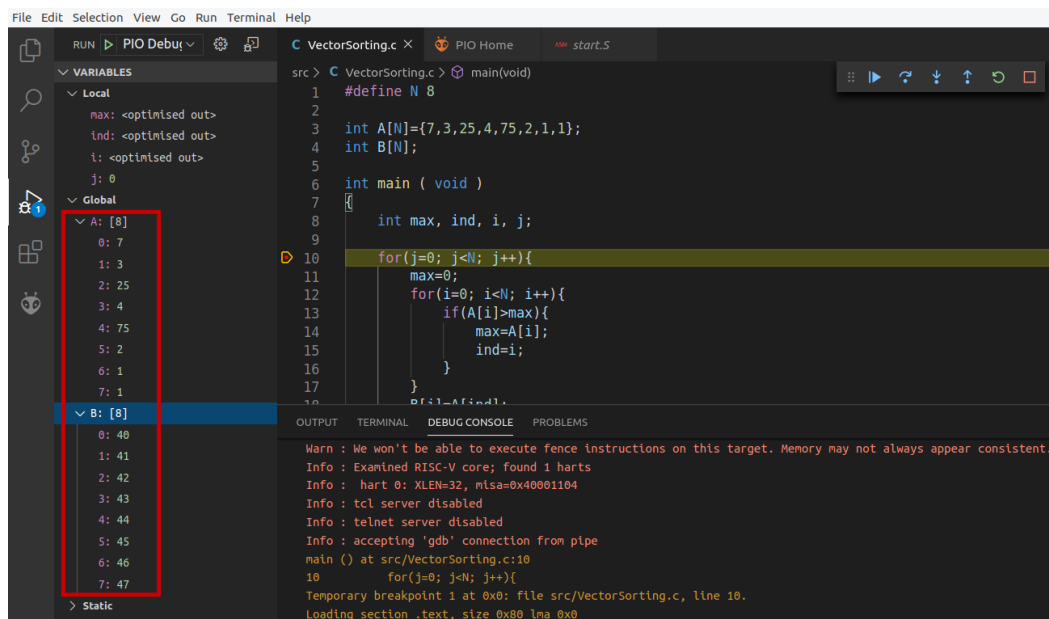

Figure 72. Execution stopped at the beginning of the program
3. Place a breakpoint at line 10 and start debugging. The execution will stop at the beginning of the `for` loop (Figure 72). Expand the VARIABLES section in the Debugger Side Bar and analyse the values of the A and B arrays (highlighted in red in Figure 72).